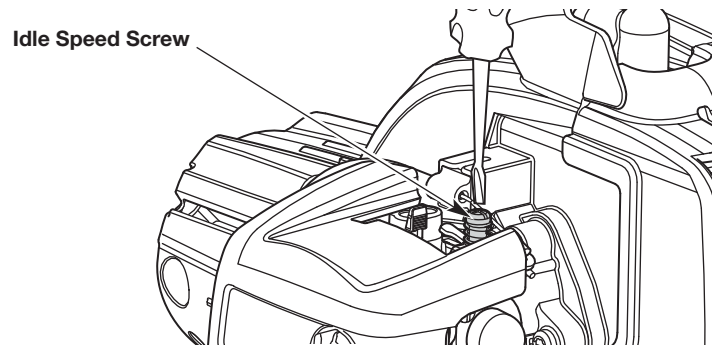

Fig. 11
2. Release the throttle control and let the engine idle. If the engine stops, use a small Phillips screwdriver to turn the idle speed screw **clockwise**, 1/8 of a turn at a time (as needed) until the engine idles smoothly (Fig. 11).